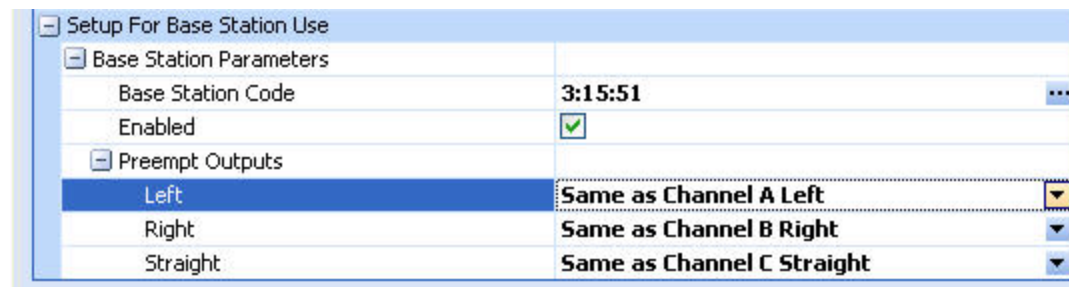

Figure 8-3
- Check the Enabled check box. See Figure 8-3.